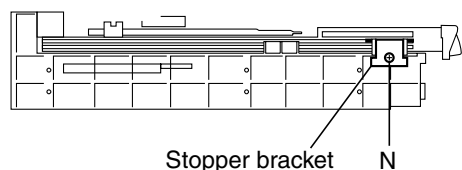

Fig.20
**■ Replacing the CD tray rotor belt of the CD changer, and removing the motor (See Fig.20 and 21)**